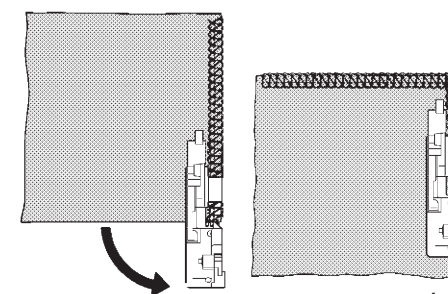

Fig. 1 / 1. Ábra / 1. Nákres
3. Turn the fabric, lower the presser foot and begin stitching in the new direction. Fig. 1.